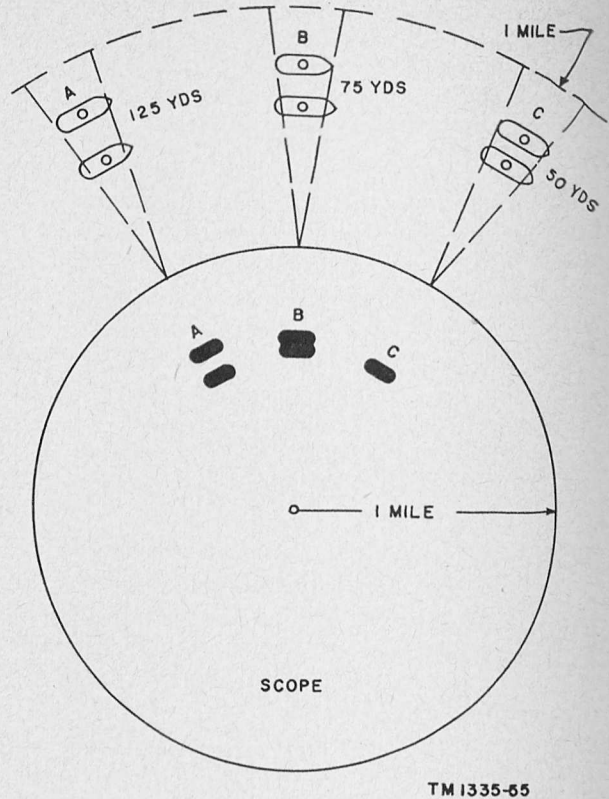

Figure 54. Range resolution.
- (1) *Short range.* In Radar Set AN/SPN-11 (*), the transmitted pulse is 0.4 microsecond in length. During this period of time, the beam travels 65.6 yards (round trip). Theoretically, a target separation of only 32.8 yards, one-half of 65.6 yards, will provide adequate range resolution. However, the shadowing of one target by another also must be considered, and a 75-yard separation of targets will just provide range resolution on the 1-mile range. Refer to figure 54 which shows two targets on the same bearing with different spacings (range) between them.